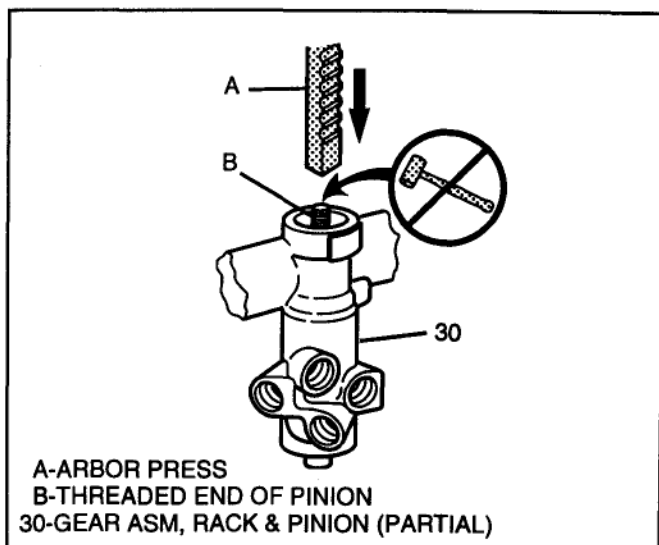
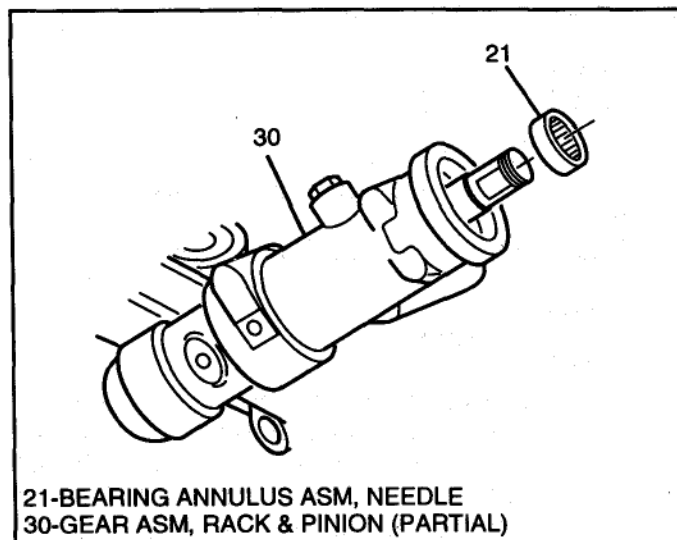

Figure 12 Pressing Pinion
Figure 13 Bearing Annulus Installation
8. Use an arbor press (see Figure 12). Press on threaded end of pinion until it is possible to remove stub shaft dust seal (18), stub shaft seal (20), and stub shaft bearing annulus assembly (21) (see Figure 13).